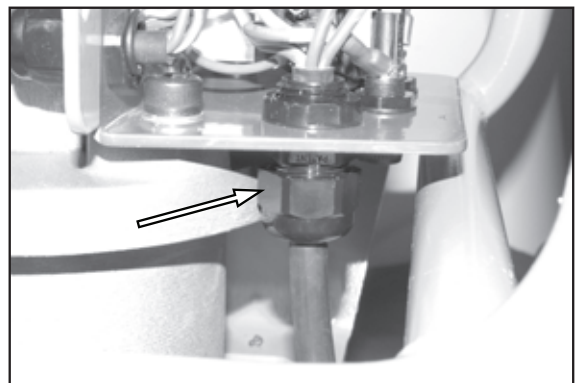

Figure 17.
2. See Figure 17. Loosen the cordgrip.